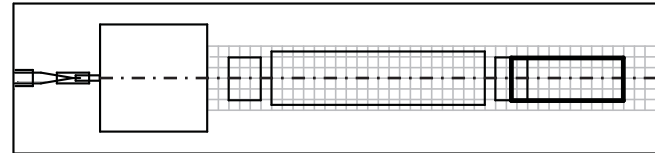

Fig. 28
Step 3. Draw the rectangle in **Fig. 28**. Use the grid to determine the location of the rectangles.